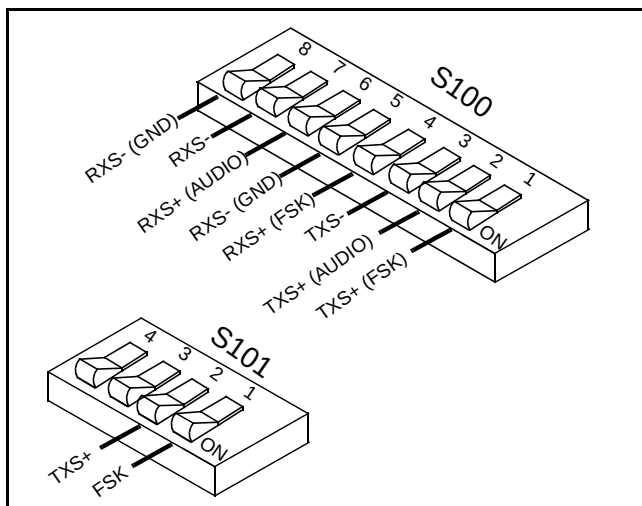

Figure 6-11 S100 Setting
1. **On the MAC** set S100 and S101, all Sections OFF (see Figure 6-11).